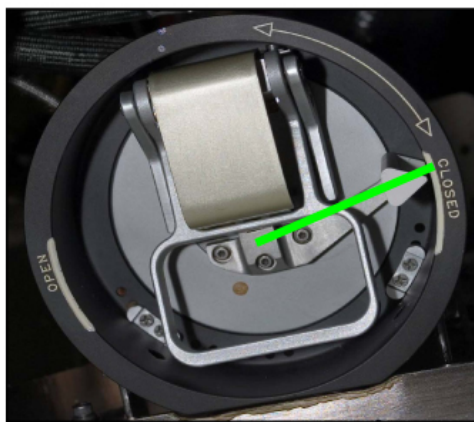

Figure 12. RMO Handle.
- 3.8 Deploy RMO Handle and align indicator with "C" in CLOSED. Refer to Green Line on Figure 12.